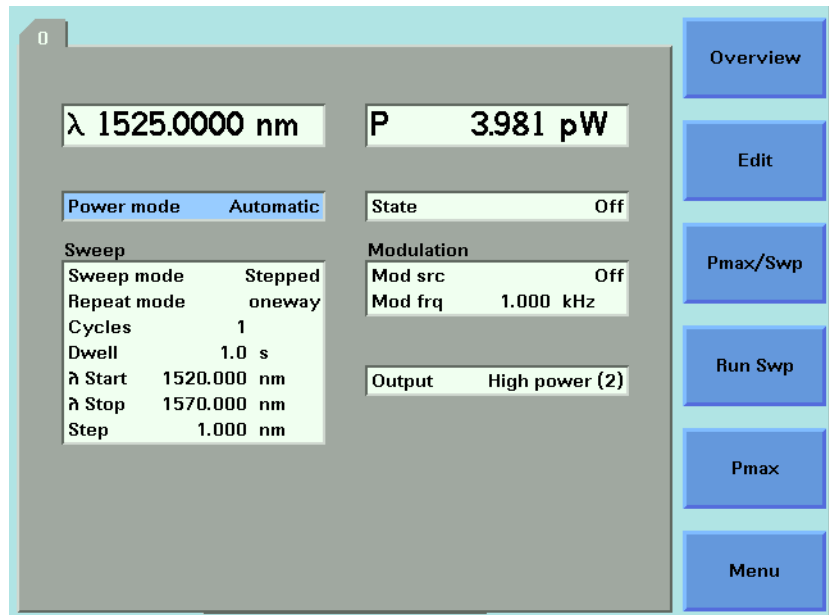

Figure 77 Setting High Power parameters
- <High Power (2)>, a high power optical output, for example, for use in testing Erbium Doped Fiber Amplifiers (EDFAs), you see a screen similar to Figure 77,
- 6 If [Power Mode] is not set to <Manual Att.> (see Figure 77), that is, it is set <Automatic>, perform the following steps: